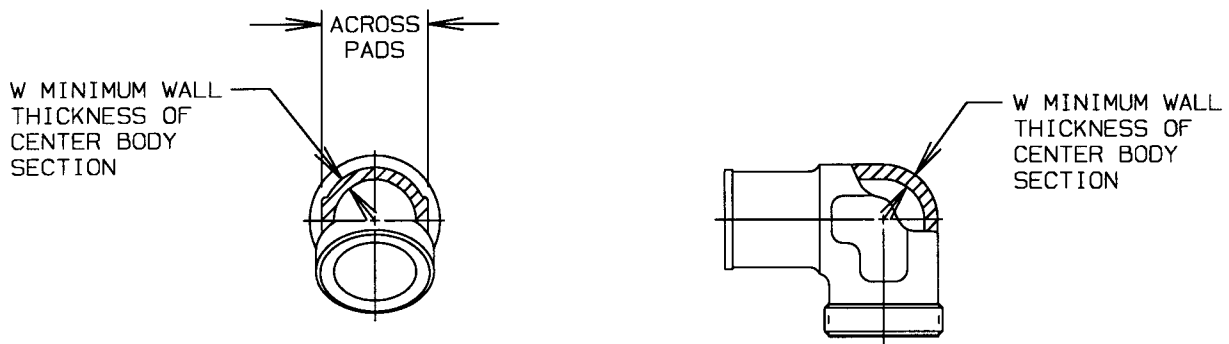

FIGURE 1 - Optional Callouts for Minimum Wall Thickness
- 3.1.2 For shape fittings, such as elbows, tees and crosses, a section thickness shall be specified as “Minimum wall thickness of center body section” as shown in Figure 1.